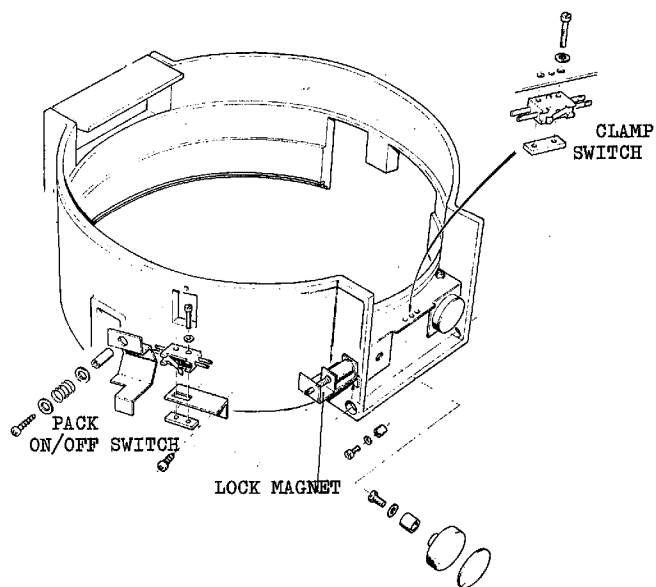

Fig 7-29 SWITCHES
5.3 LOCK MAGNET (fig 7-29)
5.4 CLAMP SWITCHES (fig 7-29)
5.5 PACK ON/OFF SWITCH (fig 7-29)